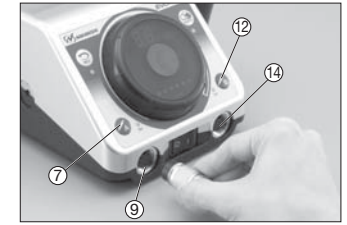

Fig. 3
Insert the motor cord plug into the Motor A Connector ⑨ or the Motor B Connector ⑭, and align the pin on the plug with the groove on the connector and tighten the motor cord plug nut. (Fig. 3)